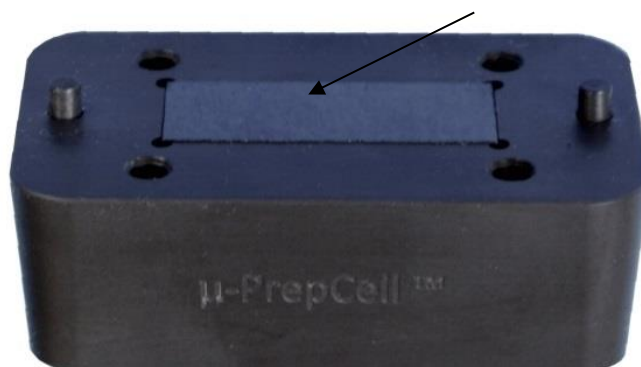
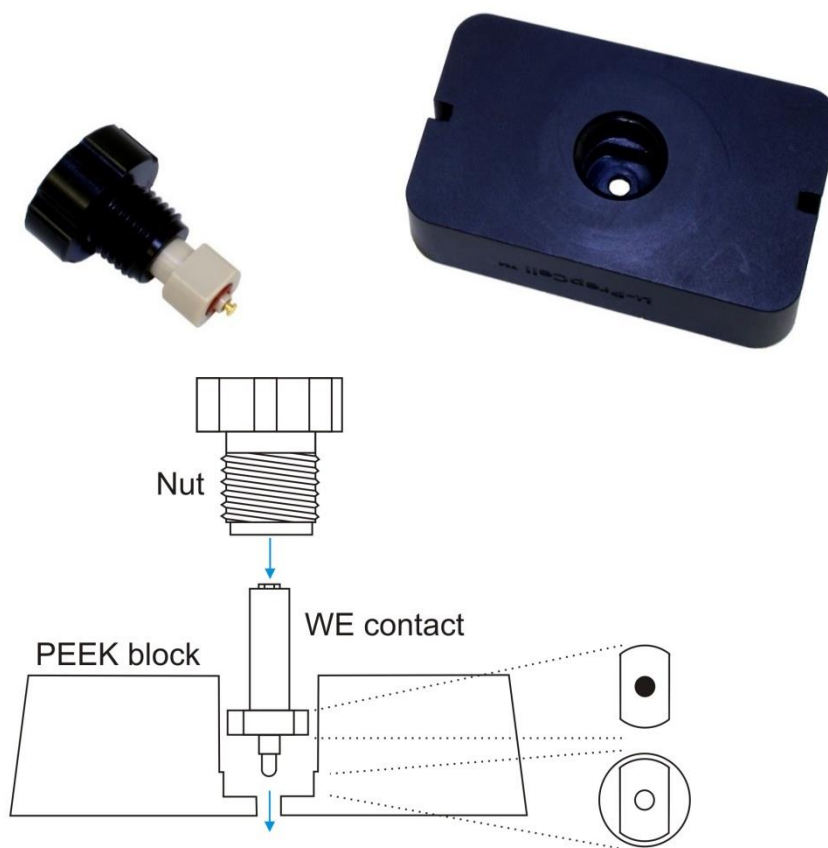

Figure 10. The PEEK WE block with MD working electrode inserted (arrow).
Figure 16. μ -PrepCell – WE contact, nut and WE block. Below: schematic intersection.
3. Assure that the spring-loaded WE electrode contact holder (Figure 16) is never exposed to (corrosive) liquids because it may lead to corrosion of the contact and malfunction of the cell.
The WE contact (see Figure 16) should not be installed in the WE block yet. Make sure that the active side of the WE electrode is facing upwards, see previous chapter for reference. For example the MD electrode in Figure 10 is positioned with the blue/grey crystalline diamond side upwards (and the gold back layer downwards). Furthermore, make sure that the electrode is laying levelled and centered in the recess and that it is free of any (hard) particulate matter below and on top of the electrode. It may lead to damage to the electrode and cell blocks when tightening the cell.
First insert the WE contact in the centre hole of the PEEK WE block. Fix the holder by means of the black nut. Make sure that the WE contact is inserted deep enough and 'locked' within the hole, note that the round holder has two straight sides which uniquely fit within the bottom part of the centre hole (see Figure 16). This prevents rotation of the WE contact holder when fixing the black nut.